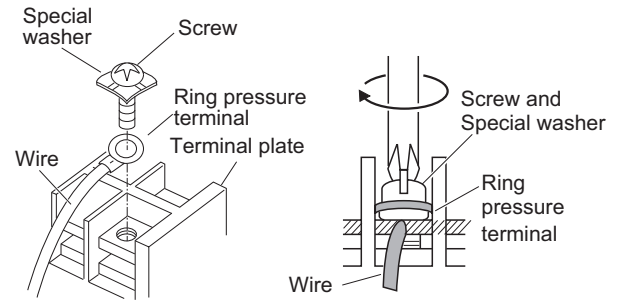

Fig. 1-2
- (4) Place the ring pressure terminal, and replace and tighten the removed terminal screw using a screwdriver. (Fig. 1-2)